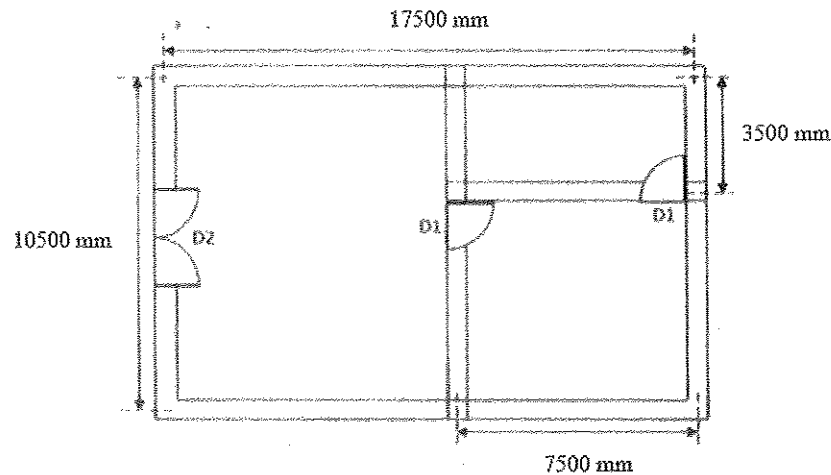

Figure B4(a) / Rajah B4(a)
- (b) Figure B4(a) shows a plan view of a floor. Based on the data given, calculate the quantity measurement for external Wall.